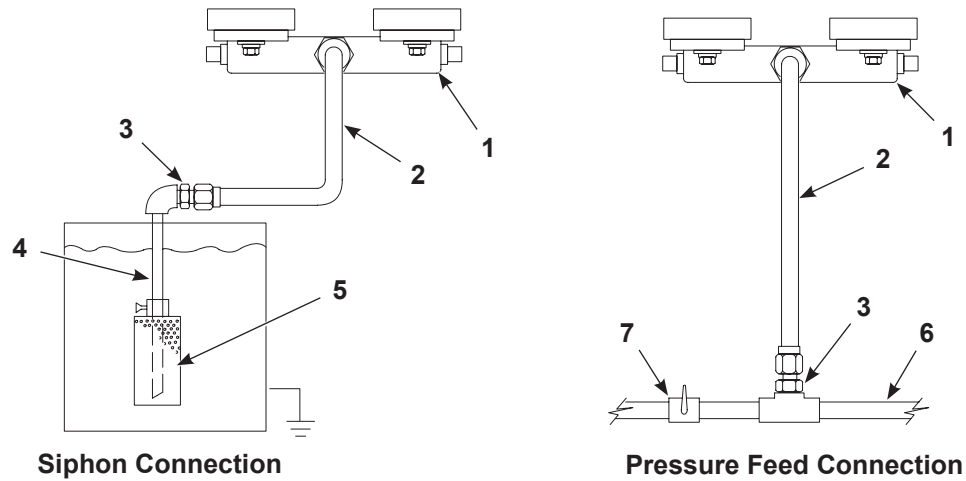

Figure 3-2 Siphon Rod and Pressure Feed Connections
2. See Figure 3-2. Connect the air supply hose to the 1/2-in. NPT female air input fitting (13) at the shutoff valve.
1. See Figure 3-2. Install the siphon strainer (5) on the siphon rod (4). Tighten the thumb screw securely.
2. Install the 1/2-in. NPT male connector (3), provided with the pump, into the elbow of the siphon rod (4).
3. Connect the siphon hose (2) between the male connector and siphon manifold (1).
See Figure 3-2. The coating material may be supplied to the pump by gravity pressure or by pressure feed from a pressure reservoir. Maximum feed pressure should be no more than 1.38 bar (20 psi).